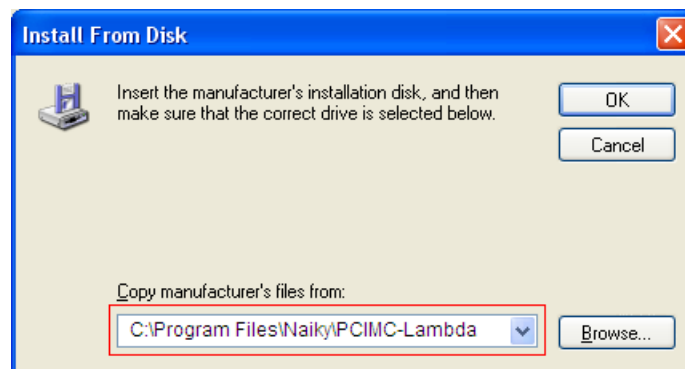

Fig. 2-12 Target file directory confirmation
- 7) After hardware driver being correctly chosen, the interface jumps to the previous dialog box where the target file directory will be displayed under item “Copy manufacturer’s files from:” as shown in Fig. 2-12.